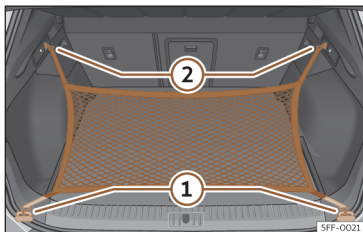

Fig. 190 In the luggage compartment: rings ① and hooks ② for attaching the net bag.
- Secure the short net hooks to the fastening rings >>> Fig. 190 ① >>> ⚠. The bag zip should be facing upwards.
- Secure the straps in the bag hooks ②.